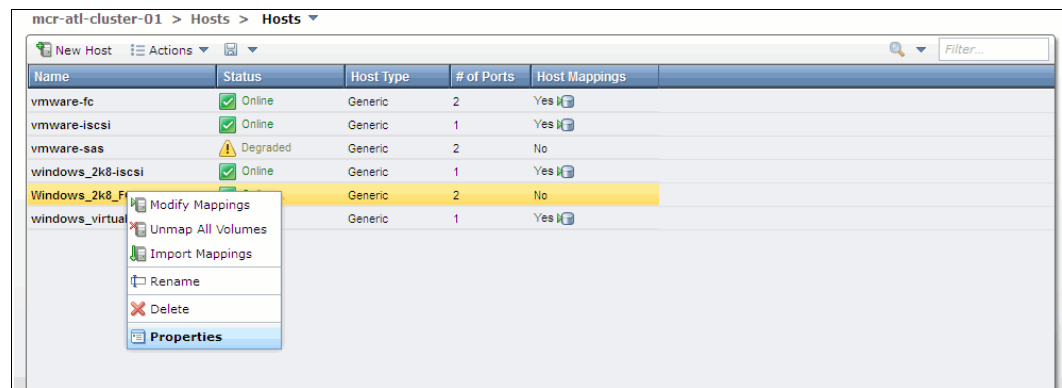

Figure 5-35 Host properties
1. Right-click your Windows 2008 Fibre Channel host in the Hosts view and select **Properties**, as shown in Figure 5-35.